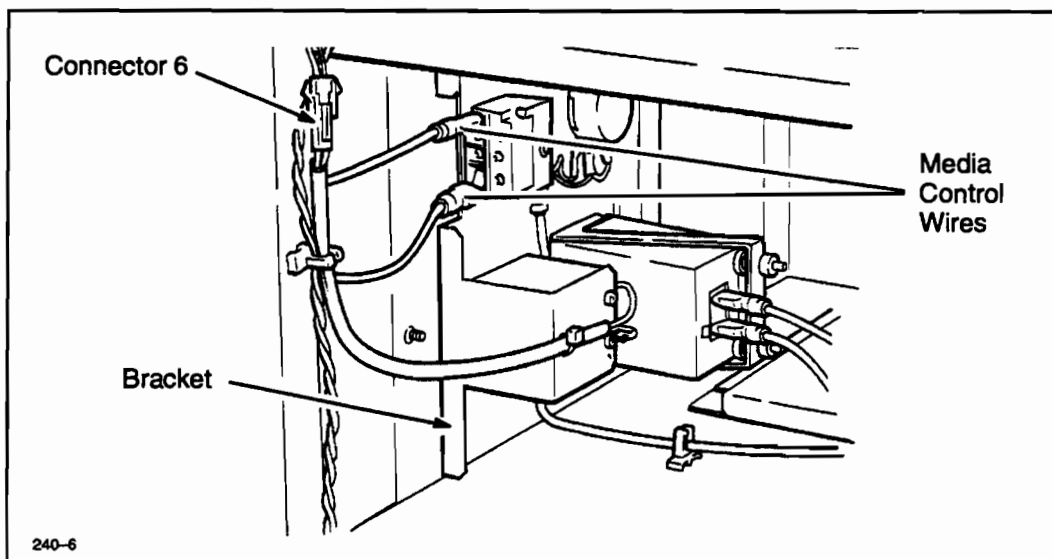

Figure 6-42. Media Switch Removal
4. Disconnect the two media control wires. See Figure 6-42.
5. Disconnect the wires from the paper meter at Connector 6 and from the pump meter and media switch. See Figure 6-42.